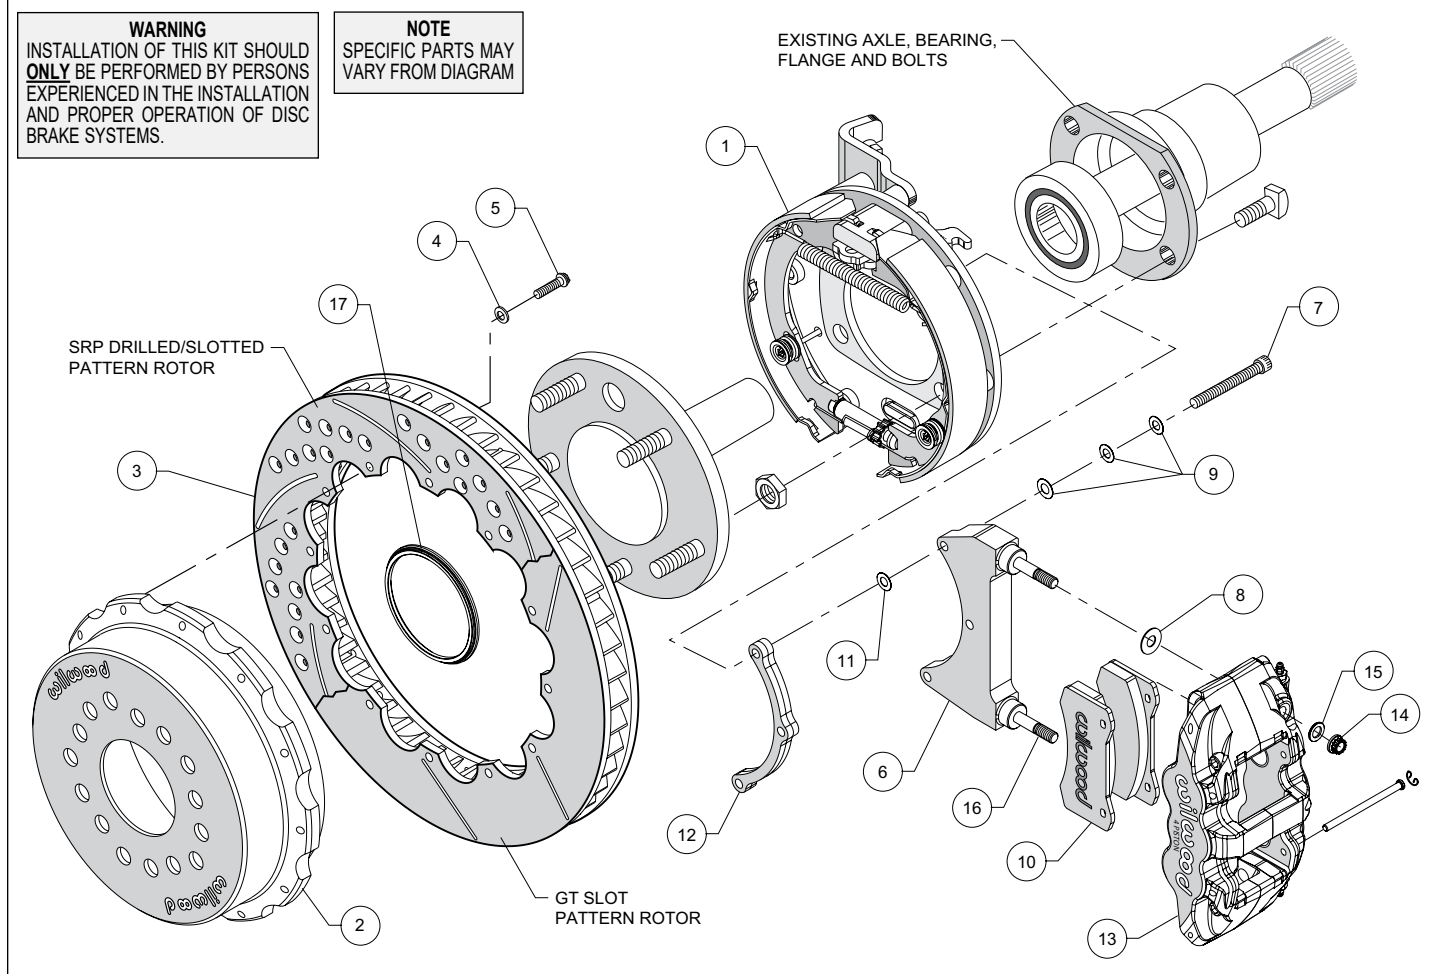

Figure 1. Typical Installation Configuration
- Slide the rotor registration adapter (17) onto the axle register on the axle flange with the smaller O.D. facing toward the rotor/hat (2). Align the correct hole pattern in the hat with the stud pattern on the axle flange. **NOTE:** *Some OEM and aftermarket axles come with stud sizes larger than 0.50" diameter.* Verify stud size and have a qualified machine shop drill the hats to the correct size, if necessary. Slide the hat/rotor assembly (2 and 3) over the wheel studs covering the bracket kit assembly (1) and against the axle flange face. Check to be sure the hat seats squarely against the hub. Install three lug nuts (finger tighten) to keep the rotor/hat assembly in place while continuing with the installation.
- NOTE:** *Please reference the caution statement at the beginning of the assembly instructions.* The caliper mounting bracket assembly (6) should be installed first with clean, dry threads on the mounting bolts (7). Install the bracket from the rear side of the bracket kit assembly (1) by sliding bolt (7) through three flat washers (9), bracket (6), shim washer (11) and finally through the spacer (12), see Figure 1. **NOTE:** *End of bolt should not exceed inside face of insert. The bracket must tighten squarely against the back side of the bracket kit assembly (1).* Inspect for interference from casting irregularities, machining ridges, burrs, etc. Use one thin shim (11) between the bracket (6) and spacer (12) during initial trial fitting.
- Lubricate caliper mounting studs and nuts with lightweight oil. Install one shim (8) over each pre-installed stud (16) on the radial mount bracket (6). Slide the caliper (13) in place over the studs and rotor, then install the washer (15) and lock nut (14) to hold the caliper in place. The caliper bleed screws should be pointing up. Snug the lock nuts (14) and check that the rotor (3) is centered in the caliper (13). Add or subtract .015" shims (11) as necessary between the caliper mounting bracket (6) and the spacer (12) to center the caliper (13).
- Remove the two pad retaining pins from the caliper (13) by carefully popping out the pin retaining clips and sliding out the pins. Insert the brake pads (10) into the caliper from the bottom, Figure 1. With the friction material facing the rotor, secure the brake pads in place with the pad retaining pins and clips. Reinstall the caliper onto the caliper mounting bracket and temporarily tighten the lock nuts. Check that the top of the brake pad is flush with the outside diameter of the rotor. If not, adjust by adding or subtracting shims (8) between the caliper and the bracket.
- Adjust the parking brake shoes outward (using a drum shoe adjustment tool available at your local auto parts store) while spinning the hat (2) until a slight drag is felt against the hat/drum. Remove the lug nuts that were holding the hat/rotor in place. Install the wheel and lug nuts. Check to see that the wheel rotates freely without interference.
- Once all clearances have been checked, remove the wheel, caliper, hat/rotor from the bracket kit assembly (1). Secure the